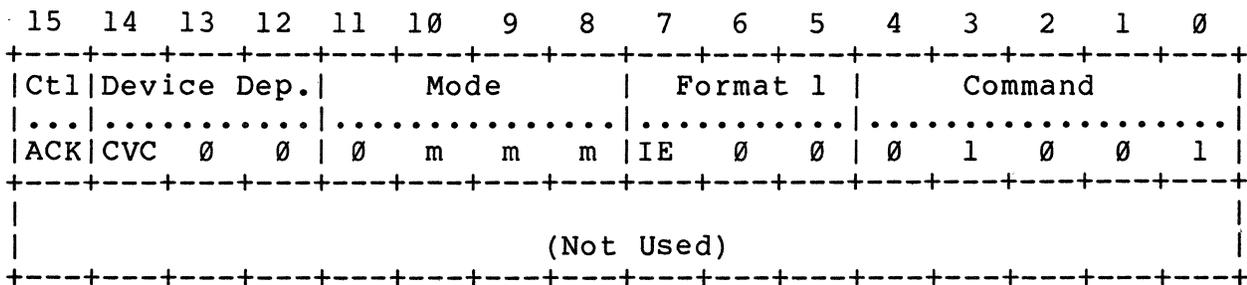

Figure 3-25 Format Command Packet
3.3.4.7 Format Command -- Figure 3-25 illustrates the Format command packet. Note that the second word is present (fetched by the controller) but is not used in the command. This command can write a tape mark, rewrite a tape mark, or erase tape.